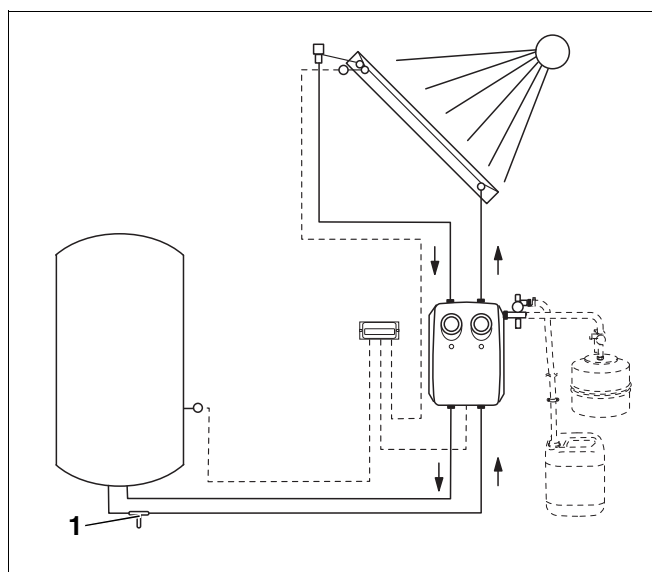

Fig. 10 Position of the fill & drain valve
- ▶ Install a device for draining the solar heating system (tee piece with fill & drain valve, Fig. 10, **Item 1**) into the return at the lowest point in the solar heating system.